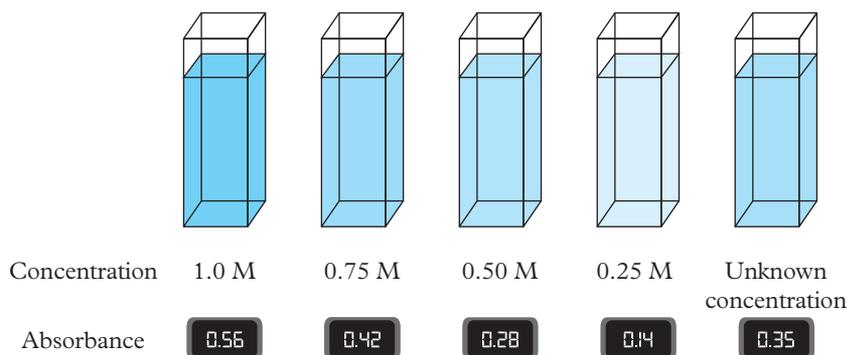

FIGURE 10 Concentrations and absorbances from colorimetry of copper sulfate solutions
The concentration versus absorbance of the unknown and standard solutions are plotted on a graph. Let's examine the absorbance from the colorimetry of copper sulfate, in different blue solutions, as shown in Figure 10.
- **Step 1:** Run known concentrations of copper sulfate solutions through the colorimeter and measure the absorbances. You can see these in Figure 10 and Table 3.